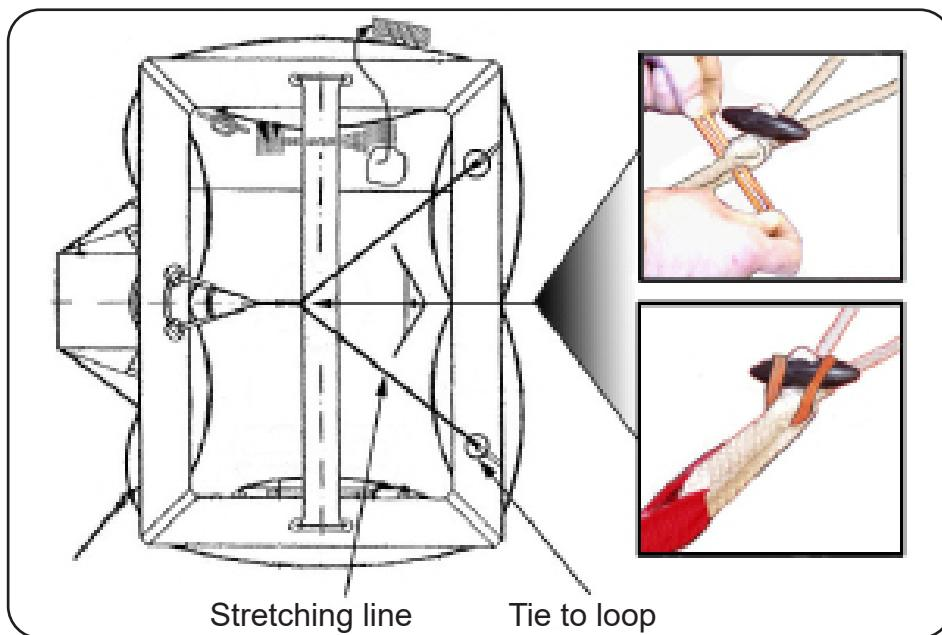

FIGURE 814
- (b) Retrieve the toggle and pull the stretching line, to half way through both holes of the toggle. Refer to FIGURE 814.
- (c) Insert the free ends of the stretching line through the hauling-in ladder at the doorway. Secure the stretching line using an overhand knot and tape the flying ends. Refer to FIGURE 814.
- (d) Tie an overhand knot about (200 mm / 8") above the toggle. Refer to FIGURE 814.
- (e) Insert the toggle complete with stretching line through the red webbing loop, of the hauling-in ladder. Refer to FIGURE 814.
- (f) Pull the stretching line tightly and pass toggle above the knot, between the stretching lines. Refer to FIGURE 814.
- (a) Retrieve the toggle and pull the stretching line, (see IPL), to half way through both holes of the toggle. Refer to FIGURE 814.
- (b) Tie each free ends of the stretching line to the two opposite loops located on the opposite buoyancy tube. Use a round turn and two half hitches and tape the flying end. Refer to FIGURE 814. There is no marking or dimension for the point of knotting necessary.
- (d) Insert the toggle complete with stretching line through the red webbing loop, of the hauling-in ladder. Refer to FIGURE 814.
- (e) Pull the stretching line tightly and pass toggle above the knot, between the stretching lines, Refer to FIGURE 814.
- (f) Attach a rubber band (see IPL) to secure the toggle in place. Put the rubber band behind the knot. Bring the ends of the rubber band up and over the edges of the toggle. Refer to FIGURE 814.